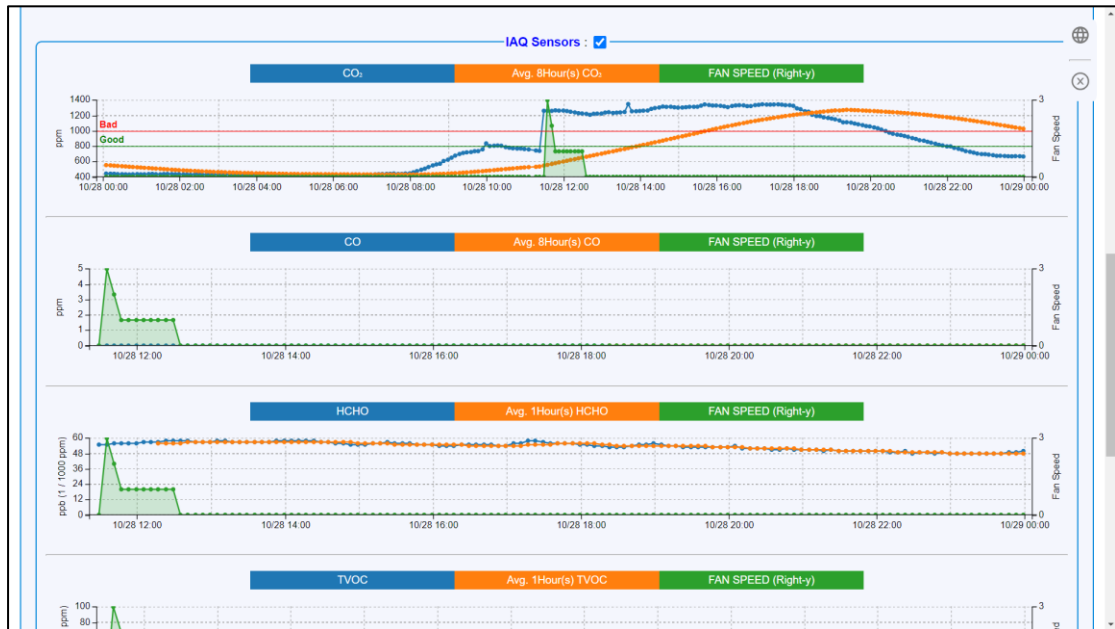

Figure 33 Historical data of the air quality sensor
monoxide (CO), formaldehyde (HCHO), total volatile organic compounds (TVOC), ozone (O₃), PM10, PM2.5 and PM1. The historical air quality data chart will also display the moving average calculated in accordance with Taiwanese regulations and the operation status of the ventilation equipment at that time. For the calculation of moving average, see Table 12; **the number of fan stages (FAN SPEED)** is 0 to 3: 0 for off, 1 for low, 2 for mid, and 3 for high. As shown in Figure 33.